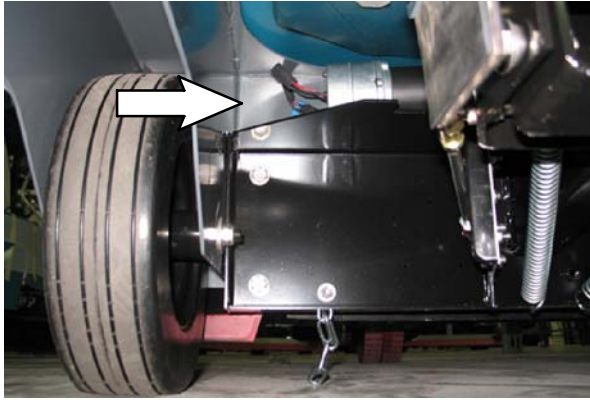

FIG. 2
3. Route the jumper harness (1) over the rear cross member of the frame, over the scrub head along the solution hoses, and to the front of the machine. Refer to Fig. 2.